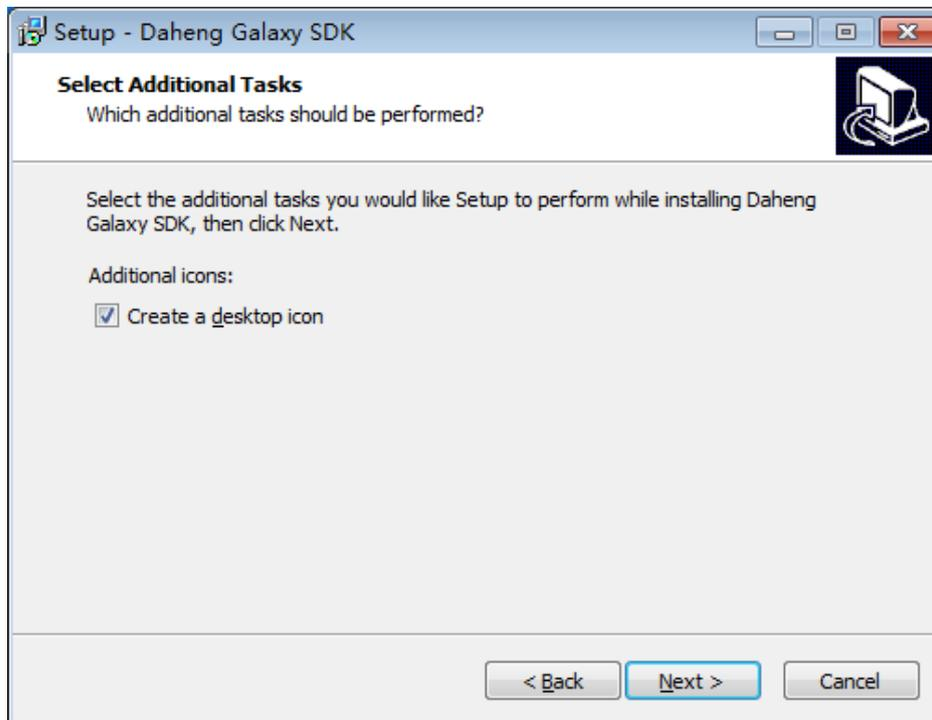

Figure 2.2-14
(17) Click next to select whether to create a left-hand shortcut to the driver, as shown in figure 2.2-14